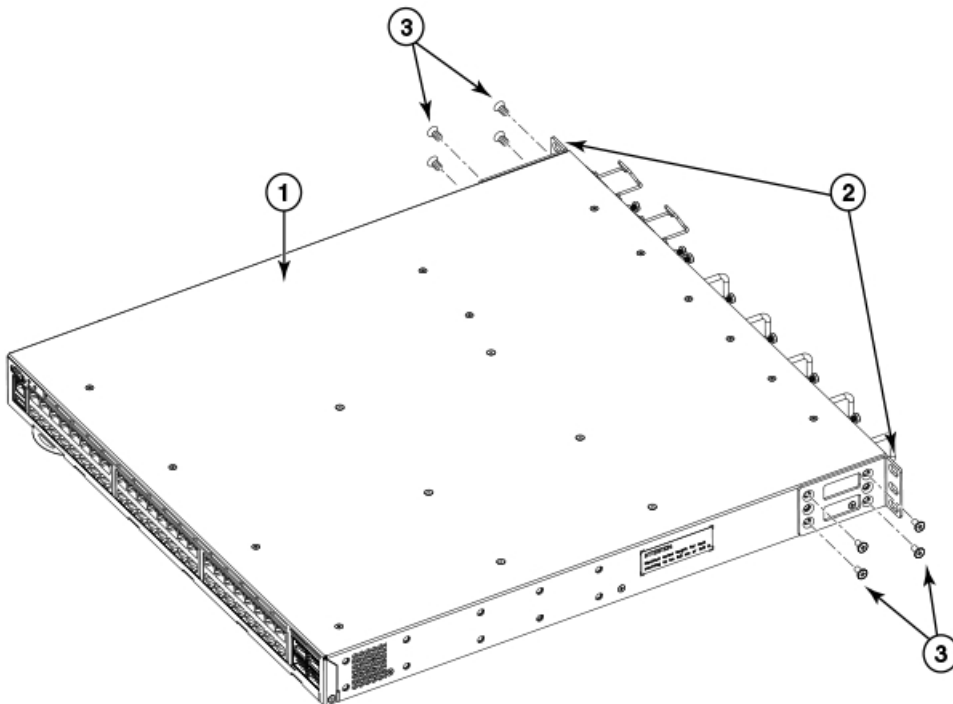

Figure 9. Attaching the front brackets to the rear of the device
1. Position the right front bracket with the flat side against the right rear side of the device, as shown in Figure 9.